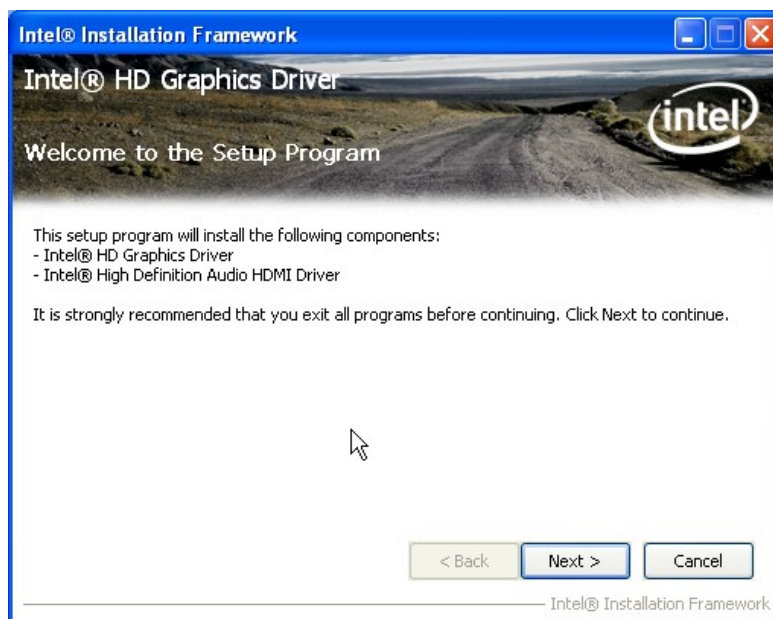

Figure 6-9: Graphics Driver Welcome Screen
**Step 4:** The **Welcome Screen** in **Figure 6-9** appears.